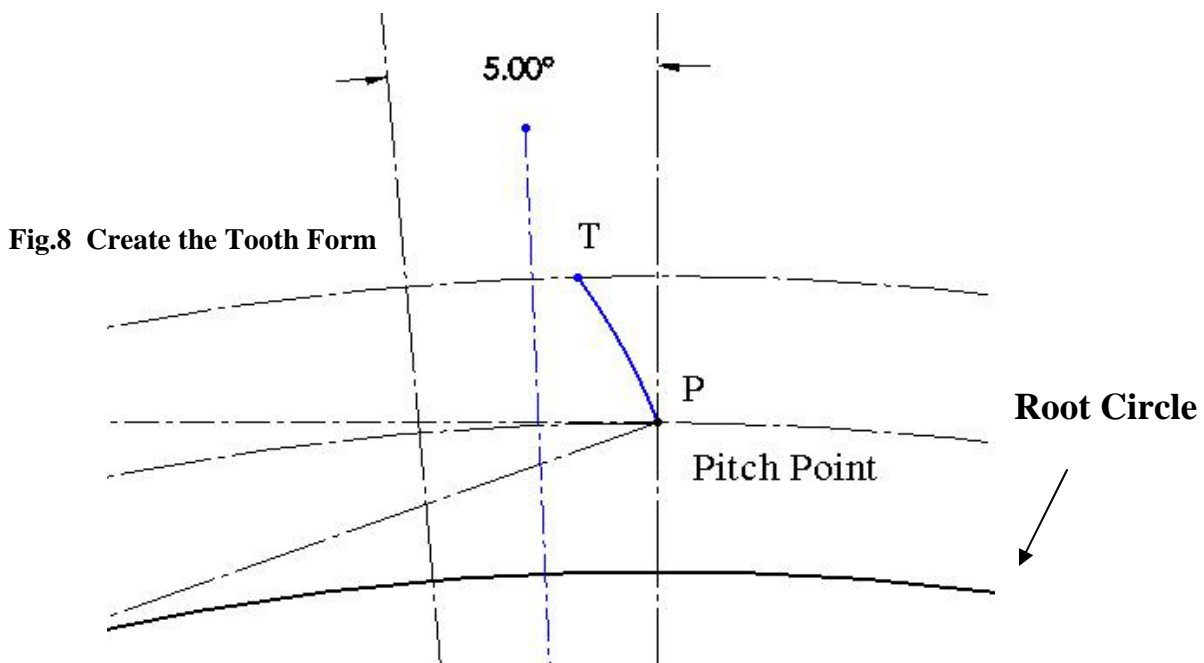

Fig.8 Create the Tooth Form
12. As you can see in this example, the tooth form is generated from the Pitch Point. Continue developing the gear tooth form by tracing over the vertical centerline and trimming away the outside circle. After creating the tooth form, erase all lines EXCEPT the circular thickness bisector, the tooth form lines and the base circle. See figure 8 and 9 below.